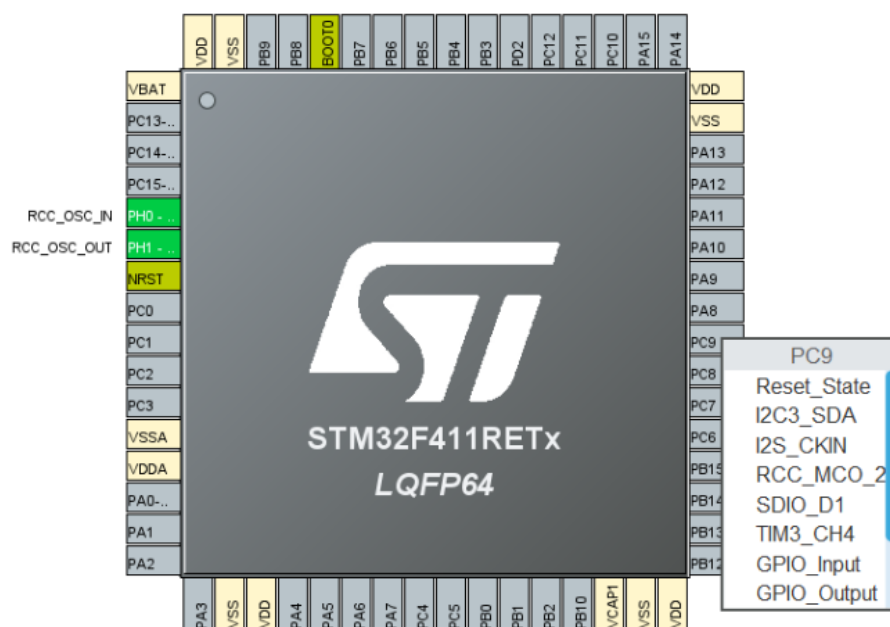

Figure 1.10: Pinout View
- In the pinout view as shown in Figure 1.10, you can assign the function for the required pins, you need to assign four pins as output to drive the 4-LED binary counter LEDs